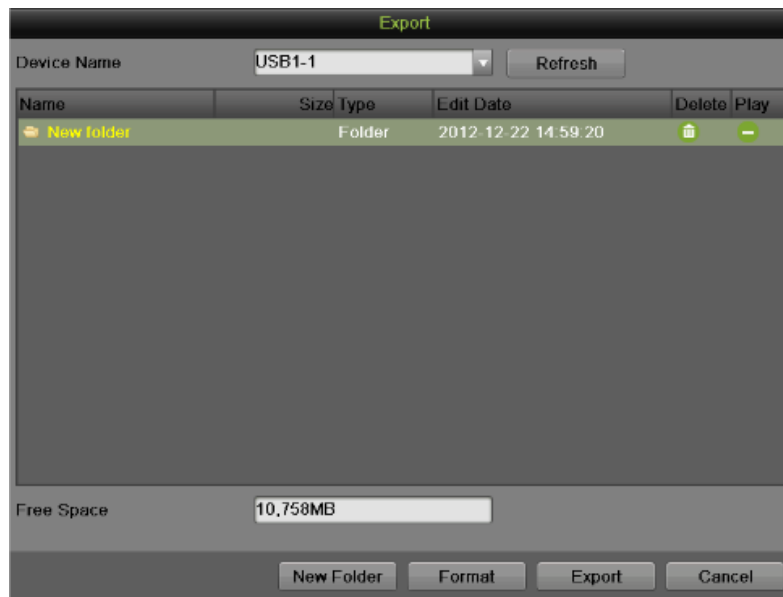

Figure 82 Files Backup Menu
4. Click the Export button; this will take you to the Export menu, as shown in Figure 82.